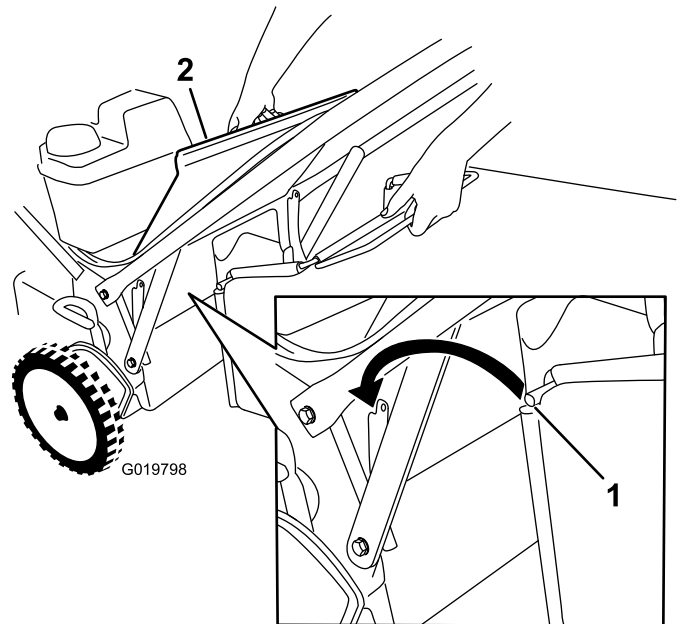

Figure 25
1. Raise and hold up the rear deflector (Figure 25).
3. Install the bag rod into the notches at the base of the handle, and rock the bag back and forth to ensure that the rod is seated at the bottom of both notches; refer to Figure 25.